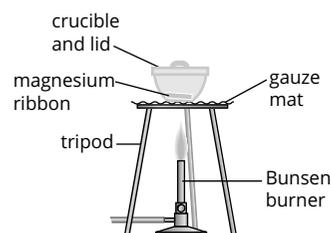

FIGURE 9.5.1 Experimental set-up
- 3 Set up your experiment as shown in Figure 9.5.1.